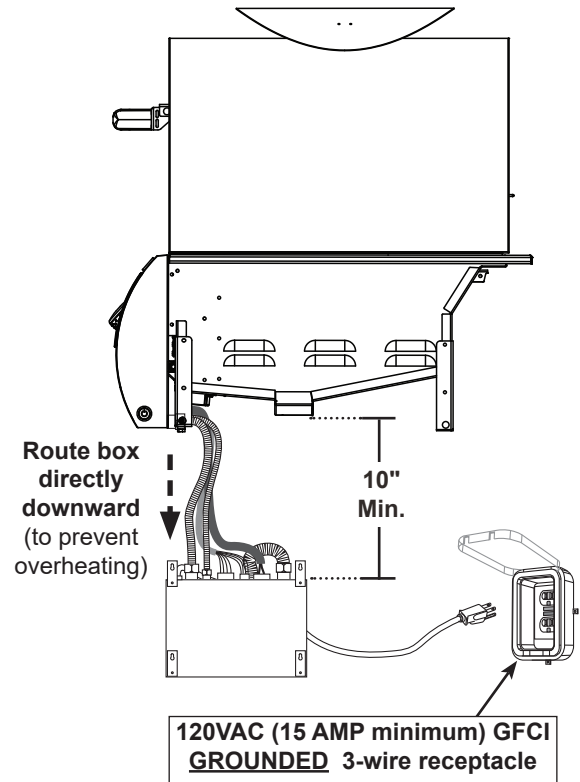

Fig. 22-1 Control box installation - overview
1. Route the control box below the control panel and directly downward. This will prevent overheating. **DO NOT** route the connections below the unit. See Fig. 22-1.
- located at least **10"** below the bottom of the unit (see Fig. 22-1).
3. Connect the power cord to a **120VAC (15 AMP minimum) GFCI GROUNDED 3-wire receptacle** (see Fig. 22-1). The GFCI receptacle must be a WEATHER-PROOF IN-USE COVERED RECEPTACLE.